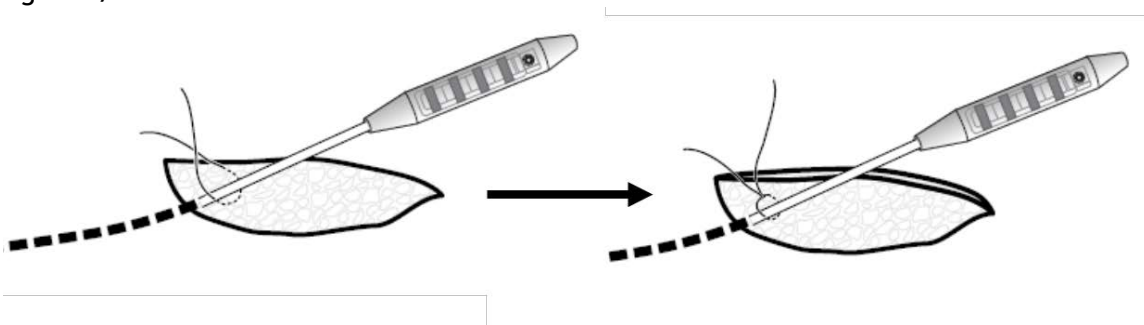

Figure 2.
- Secure the preplaced suture in the tissue around the percutaneous extension closing the tunneling path (Figure 2).